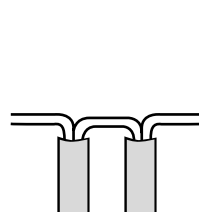

Figure 7.
- Insert one of the twist ties from step 9 into the stirrer from step 10 to obtain the assembly shown in Figure 7.